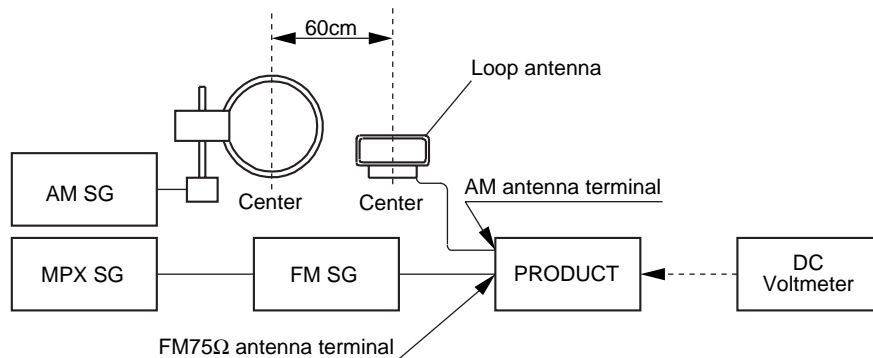

Fig. 6-5 AM and FM Adjustment Wiring Diagram
- Connect the wiring as shown in Fig. 6-5.
- Connect the wiring as shown in Fig. 6-5